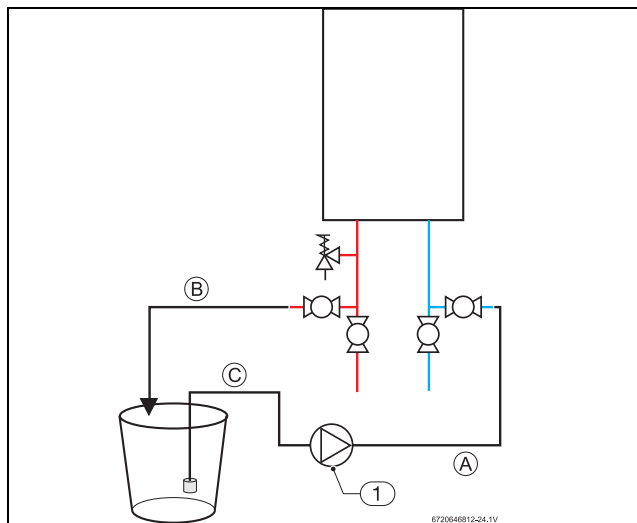

Fig. 69
- ▶ Connect a line (A) from the outlet of the circulating pump (installer supplied) to the inlet water fitting on the water heater (see fig. 69.)
- ▶ Using another line (B), connect the water outlet fitting on the water heater. Route the other end of this line into a descaling reservoir.
- ▶ Using a 3rd line (C) from the descaling reservoir, connect to the inlet side of circulating pump. Install a filter on the end of the line in the descaling reservoir.